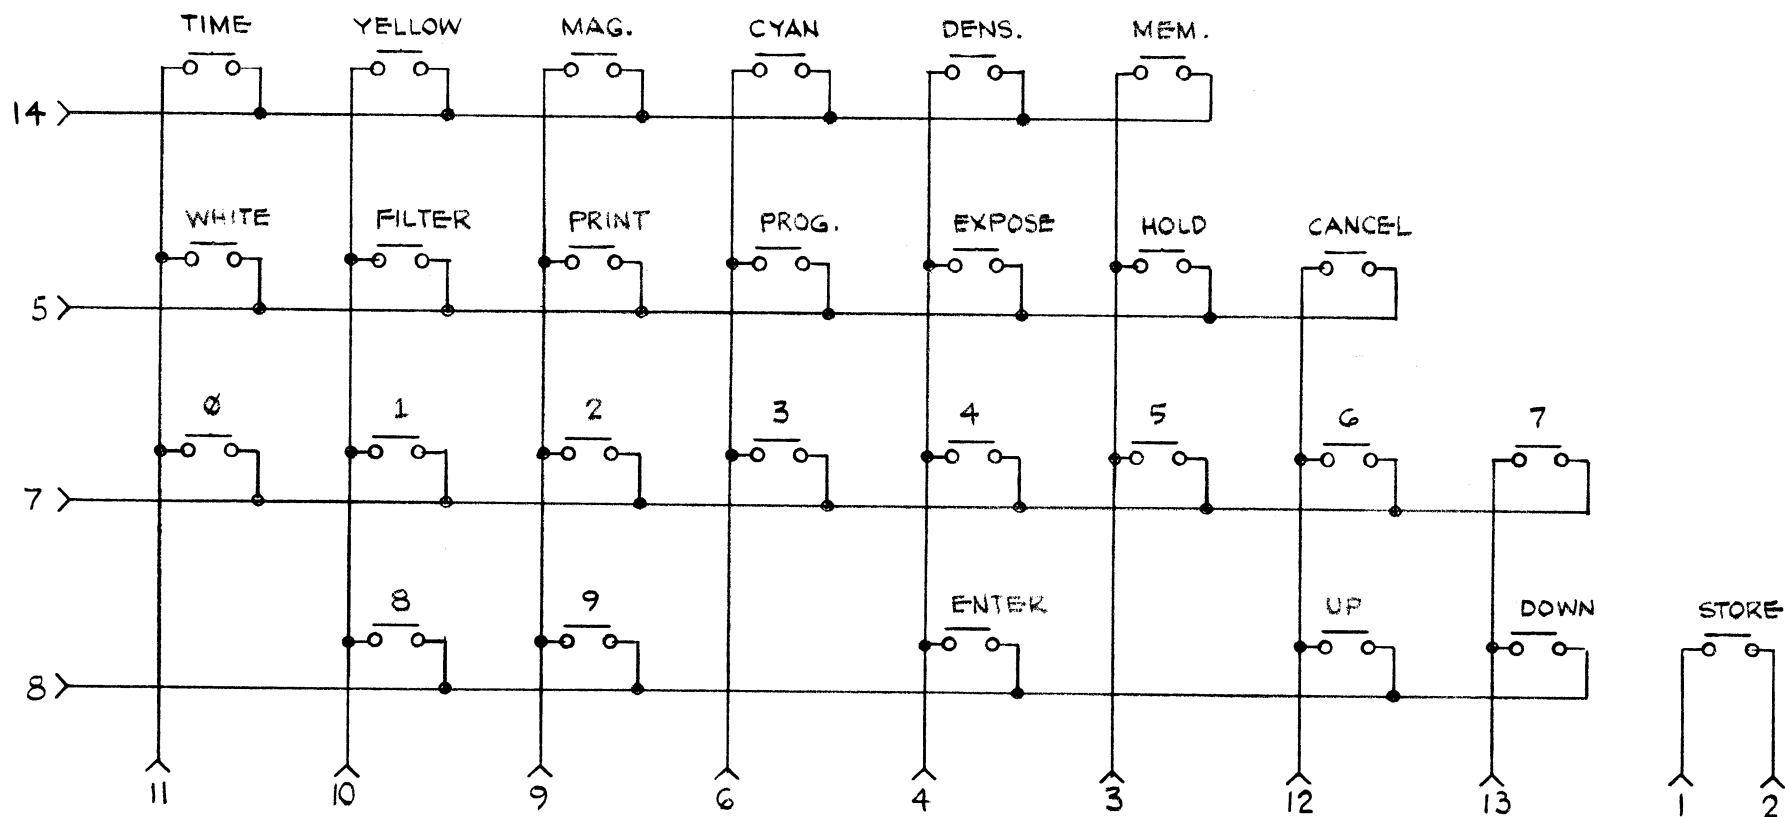

Figure 4-5. CLS Translator/Controller Front Panel, Schematic Diagram
- Figure 4-5. CLS Translator/Controller Front Panel, Schematic Diagram